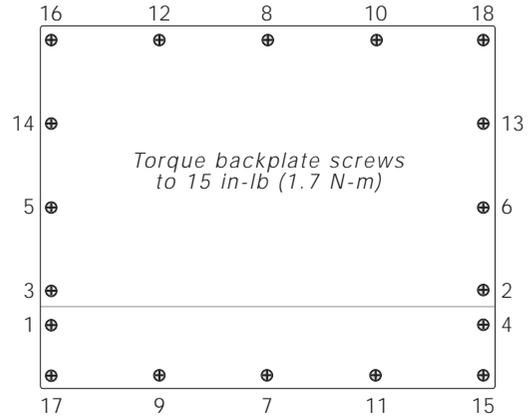

Figure 2-4. 920i Enclosure Backplate
5. Once cabling is complete, position the backplate over the enclosure and reinstall the backplate screws. Use the torque pattern shown in Figure 2-4, to prevent distorting the backplate gasket. Torque screws to 15 in-lb (1.7 N-m) or refer to the installation instructions for your particular enclosure.